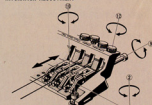

Fig. 4
- After tuning all strings to pitch, replace nut clamp pressure pad and tighten as Fig. 4.